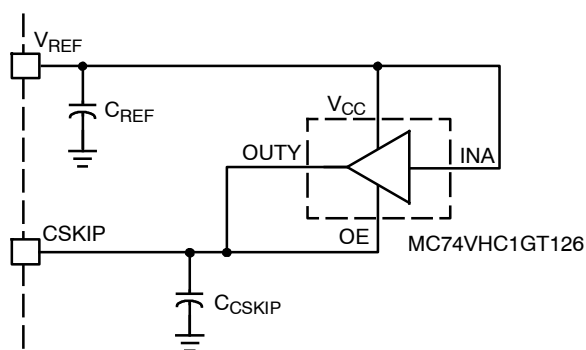

Figure 38. External Latch Implemented using ON Semiconductor's MiniGate™ Buffer
The latch in Figure 38 consists of a TTL level tri-state output buffer from ON Semiconductor's MiniGate™ family. The enable (OE) and output (OUY) terminals are connected to CSKIP and the V_{CC} and INA pins are connected to V_{REF} . The output of the buffer is in a high impedance mode when OE is low. Once a continuous current limit condition is detected, the CSKIP timer is enabled and CSKIP begins charging. Once the voltage on CSKIP reaches the enable threshold of the buffer, the output of the buffer is pulled to V_{REF} , latching the CSKIP timer. The OE threshold of the buffer is typically 1.5 V.